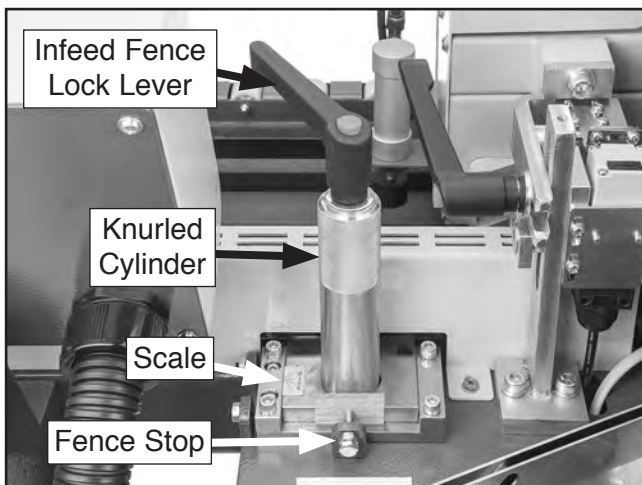

Figure 48. Infeed fence adjustment components.
There are two methods for setting the infeed fence position: 1) using the infeed fence scale, and 2) using the infeed fence stop (see **Figure 48**).
2. Loosen infeed fence adjustment lock lever, rotate knurled cylinder until number indicating thickness of edgebanding aligns with mark on scale (see **Figure 48**), then retighten lock lever.